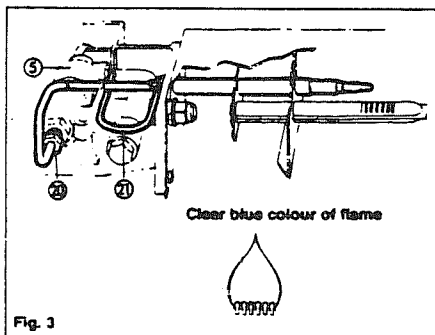

Fig. 3
FLAME FAILURE SAFETY DEVICE (FIG. 3)
6. Reassemble in reverse order. Check that feeler has been correctly refitted in relation to burner. See Fig. 3.